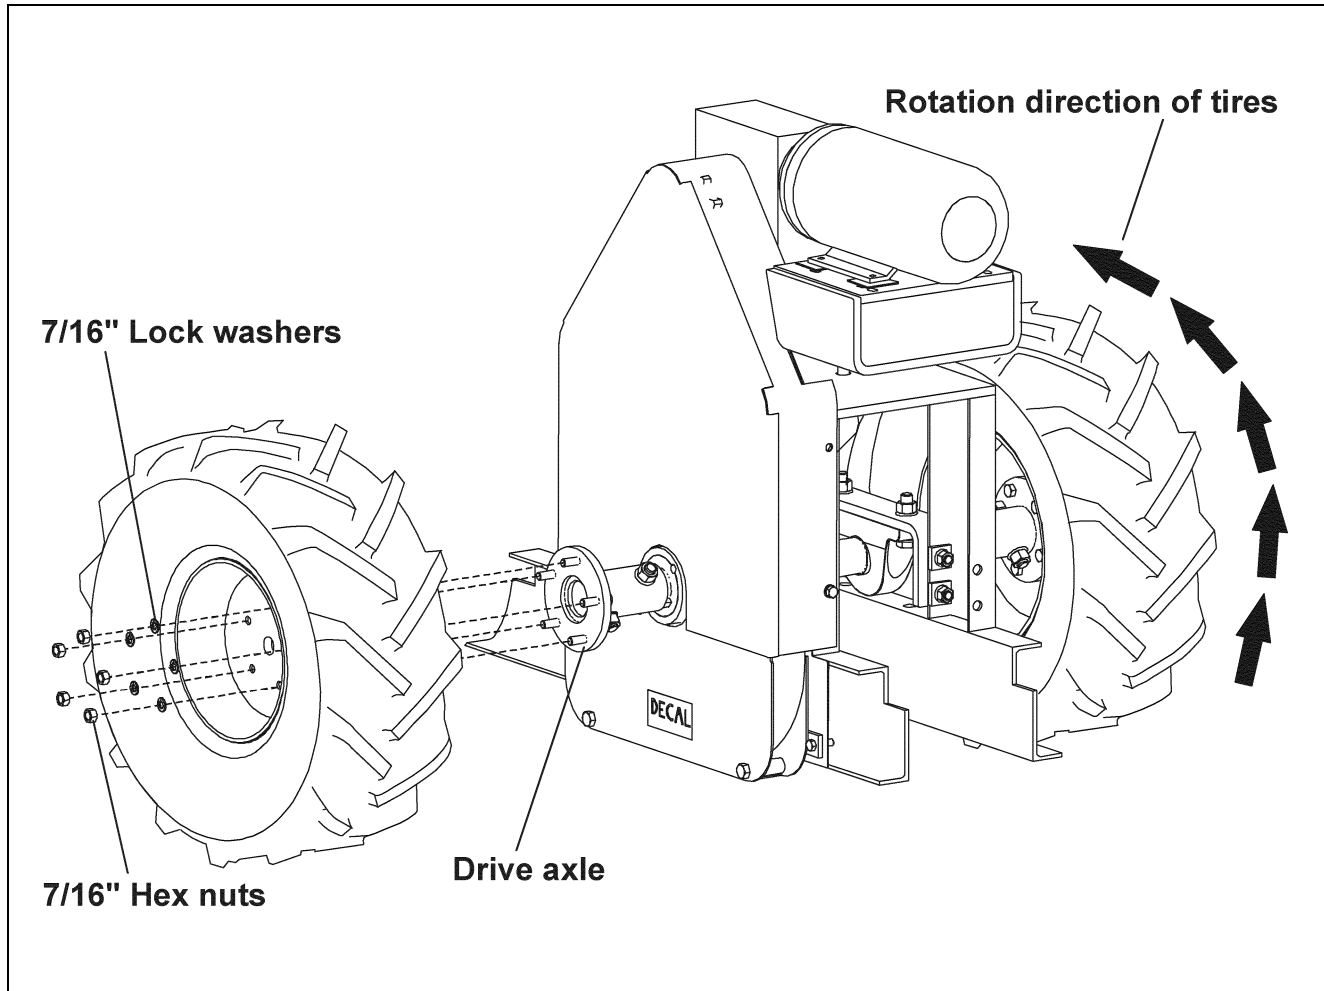

Figure 5R
A. Assemble the tires to the drive axle assembly using ten (10) 7/16" lock washers and hex nuts. (See Figure 5R).
NOTE: Tires go on backwards as shown in Figure 5R.